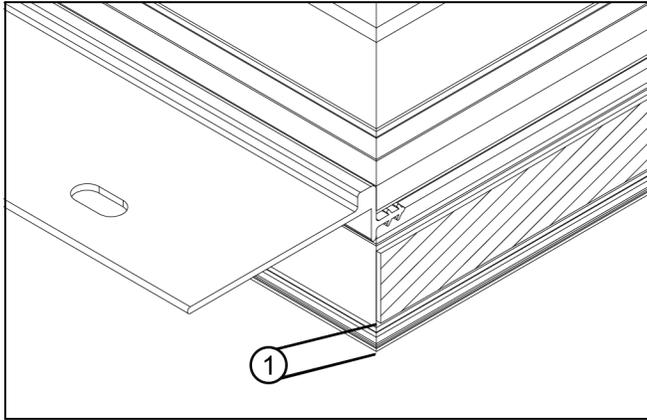

Figure 29
1. Lay the transom frames on a flat surface in the desired mulling configuration (interior facing up). Remove nailing fin from sill and side jambs that will be mulled together. Apply mull sealant foam tape along the entire length of one jamb to be mulled ensuring it is located 1/4" (6) from the exterior edge of the Ultrex frame as shown in Figure 29